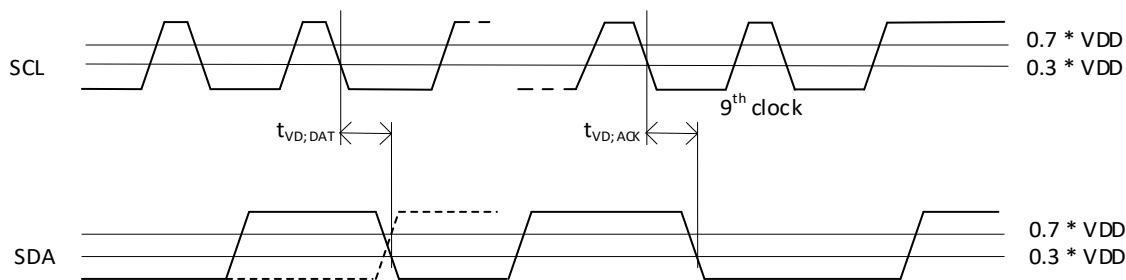

Figure 6-2. Parameter Measurement Waveform:  $t_{VD;DAT}$  &  $t_{VD;ACK}$
1.  $t_{VD,ACK}$  = time for acknowledgement signal from SCL LOW to SDA (out) LOW, see Figure 6-2.
2.  $t_{VD,DAT}$  = minimum time for SDA data out to be valid following SCL LOW, see Figure 6-2.